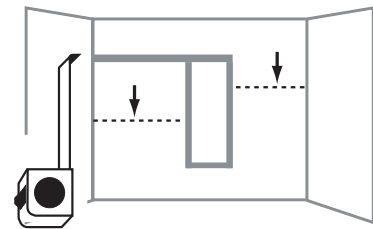

FIG. 4.0
1. Using the height location measurements for the **LOWER (D)** shelves on grid, measure from the top shelf down and mark all lower shelf locations on the back closet wall (Fig. 4.0).